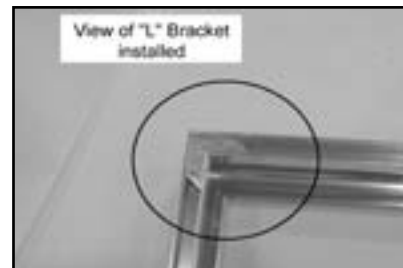

Figure 20.4
2. Assemble the trim with the (2) corner brackets provided. **Figure 20.4.**